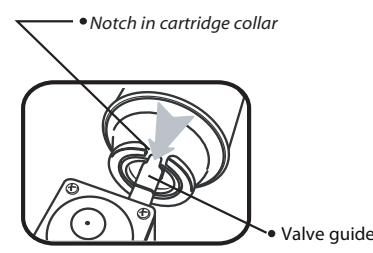

fig. 2
1. Check that the control knob (8) is set to position "●" by turning it clockwise and the cartridge lever (6) is set to UNLOCK.
2. Open the cartridge cover (2) and insert the cartridge, with the head to the front, so the notch points upwards and aligns in the valve guide (fig.2).